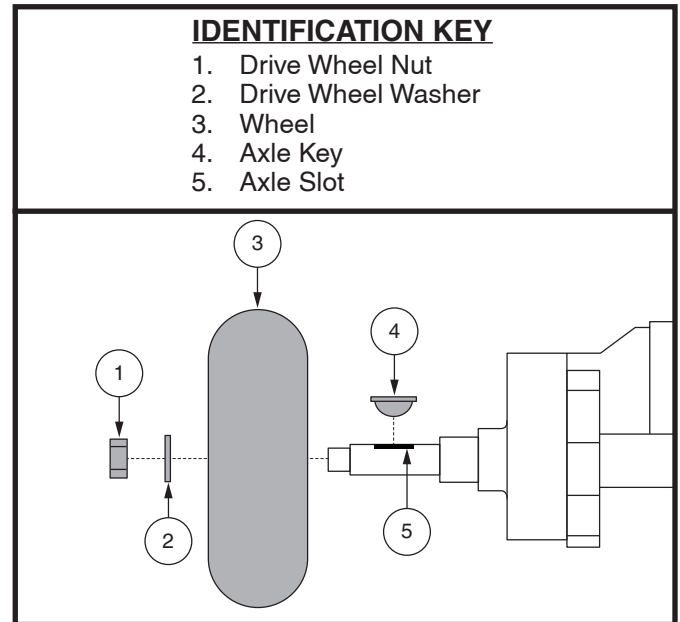

Figure 20. Wheel Replacement
3. Remove the drive wheel nut and washer from the axle. See figure 20.